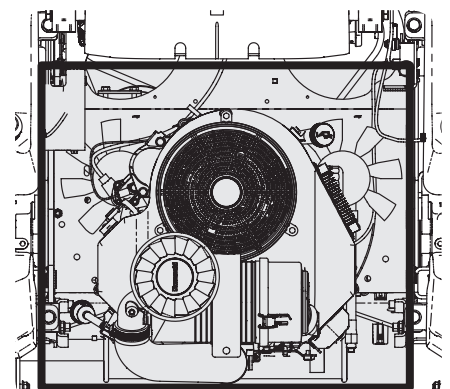

Figure 4-1
- Clean around the exhaust manifold, fuses, all wiring and harnesses, muffler pipe, muffler shield, engine intake screens and cooling fins, etc. See Figure 4-1.